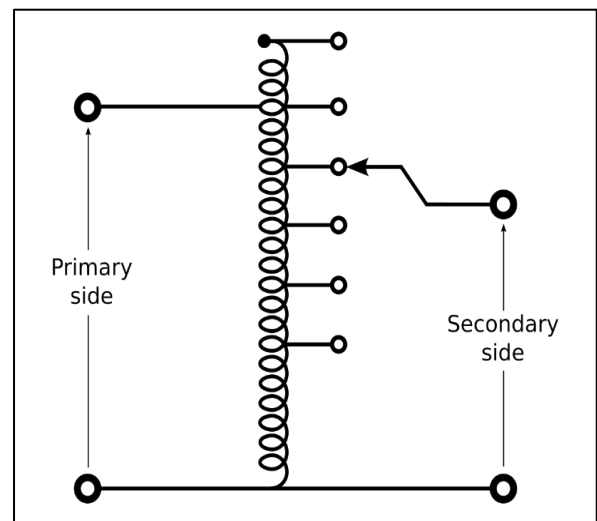

Figure 5: Autotransformer with on winding.
*Autotransformer* has only one winding serves as both primary and secondary benefits and also one core. This single winding has a number of connections along its length (figure 5).